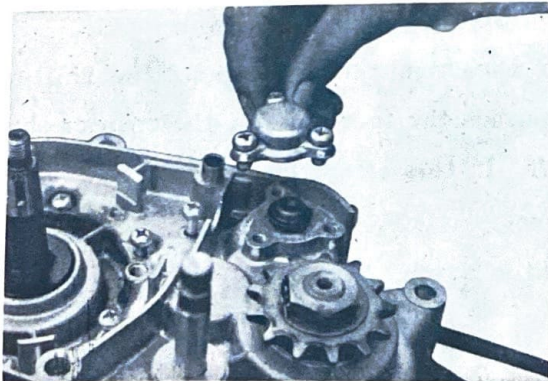

Fig. 3-16-4
- a. Remove the shift drum seal cover and clip. (Figs. 3-16-4 and 5)